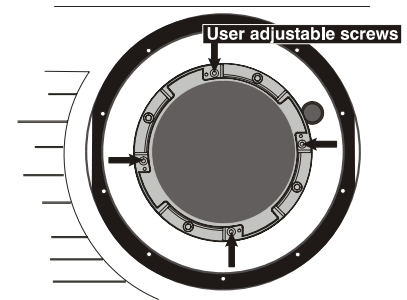
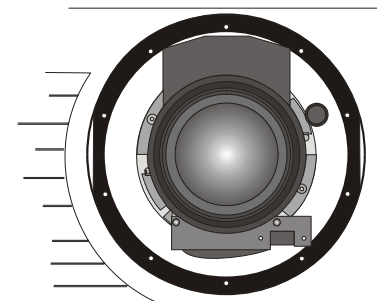

Figure 4.11. Adjustable Screws on Retaining Ring
Figure 4.12. View With Zoom Lens Installed
- **Secure lock-down screws (optional):** For added stability, secure the adjustment screws provided on the lens-retaining ring (see Figure 4.11). If you have installed a large zoom lens, one or more of the screws may be inaccessible—simply tighten those that are accessible (Figure 4.12).